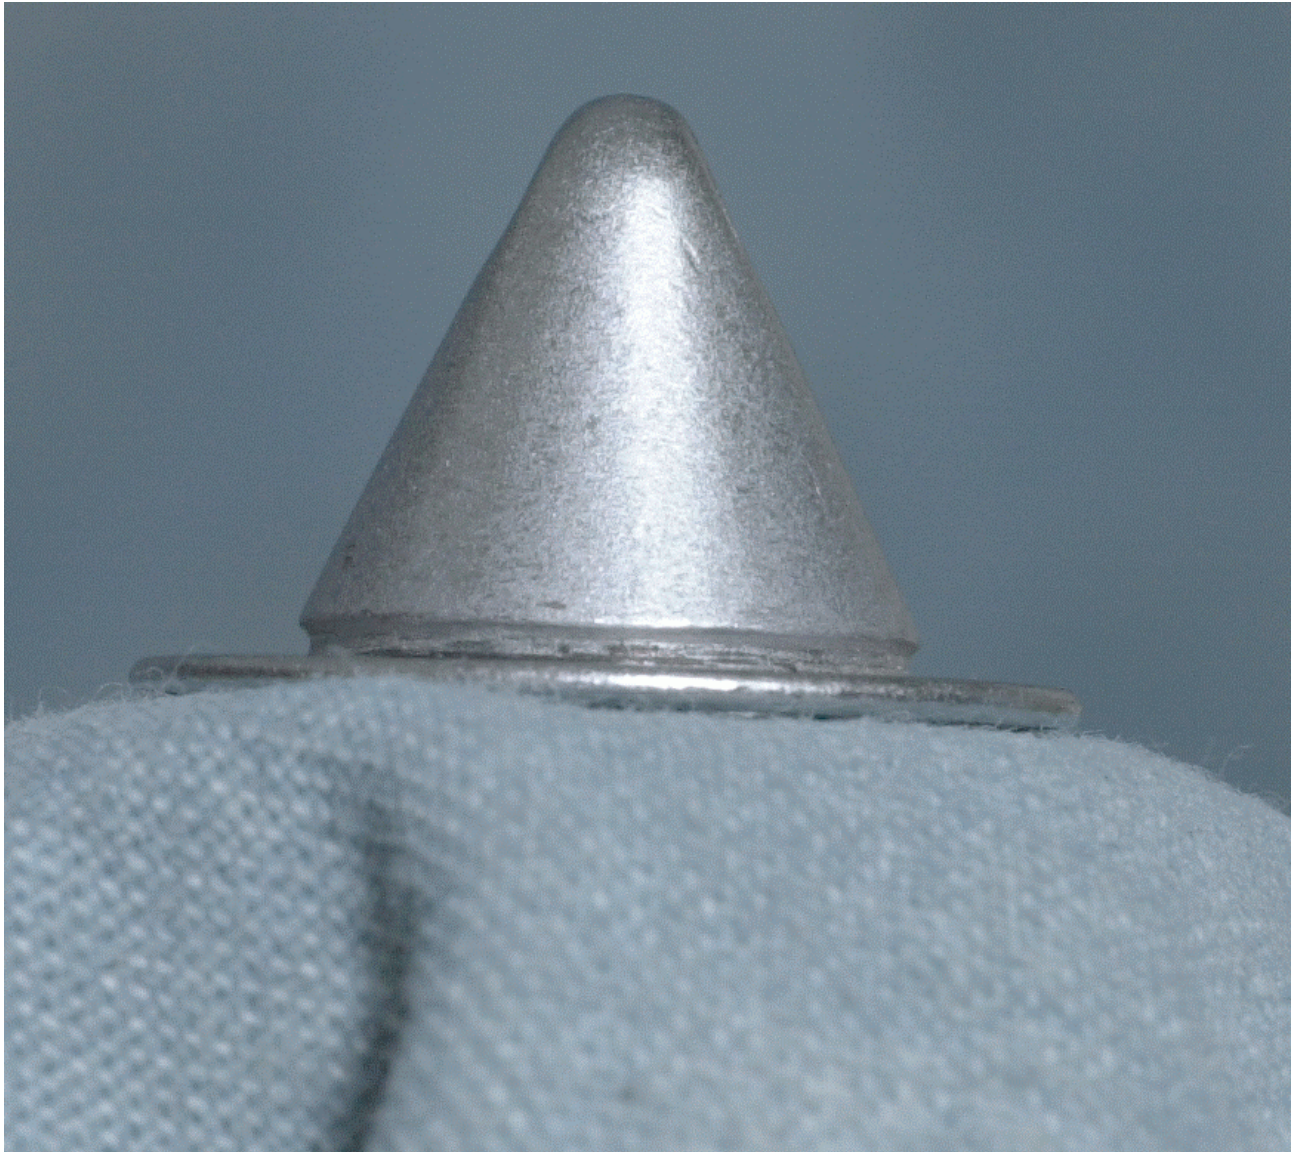

Figure 2
- 2. If it is questionable whether or not the hole is within the teardrop area, rotating the cone 90 degrees should show no broken edge/concave dip in the cone surface as shown in figure 2.**